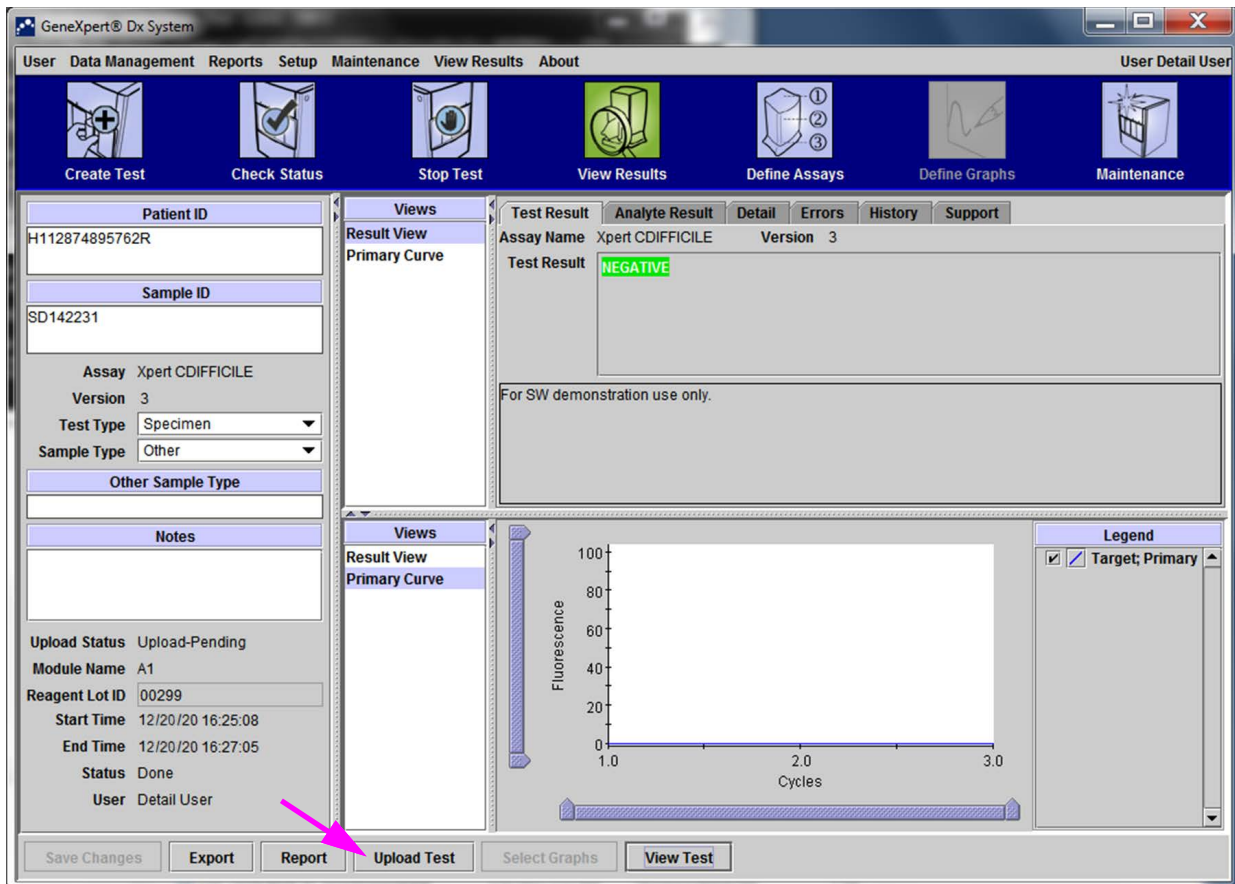
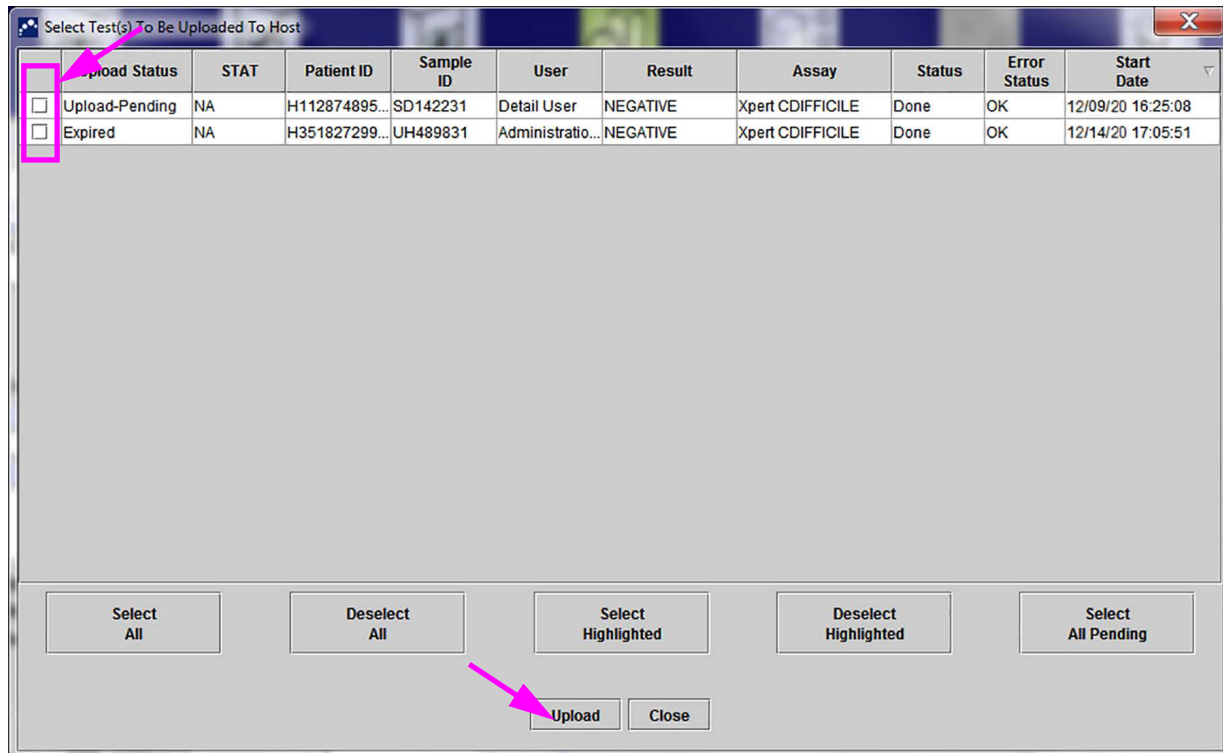

Figure 5-94. Host Upload Shown in the Test Information Area of the View Result Window
Figure 5-95. Select Test(s) to be Uploaded to the Host Window
After the test is completed, the result will be automatically uploaded. The Upload Status is shown in the Test Information area of the View Result window. See Figure 5-94.
2. Click **Upload Test** in the View Results window (see Figure 5-94). The Select Test(s) To Be Uploaded To Host window appears, displaying the completed tests. See Figure 5-95.